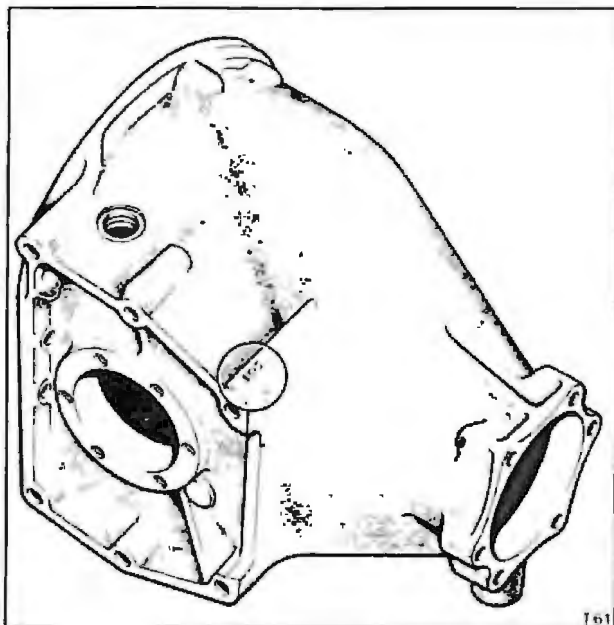

Fig. J2-7 Stamped dimension on case
4. Note the dimension stamped on the final drive casing (see fig. J2-7). Then, place the casing in an oven having a temperature of 110°C (230°F) for approximately thirty minutes.